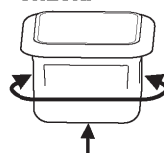

Fig. 2
2. Check for holes or leaks by visually inspecting the surface of the solder pot. (Fig. 2)